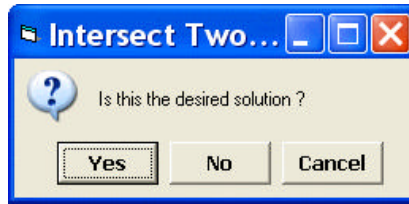

Figure 6
Having clicked at the *OK* button, the program computes the first of the two solutions, and displays two small red crosses at the location of the said points C and D denoting their location. In addition the program displays the query dialog box of Figure 6 asking whether their position is desirable, or not.
- **12** Click at the **Yes** button to accept the solution and display the specified points, lines or both, or **click** at the **No** button to cause the program to try the other solution and display again the query dialog box of Figure 6, or **click** at the **Cancel** button to abort the command.